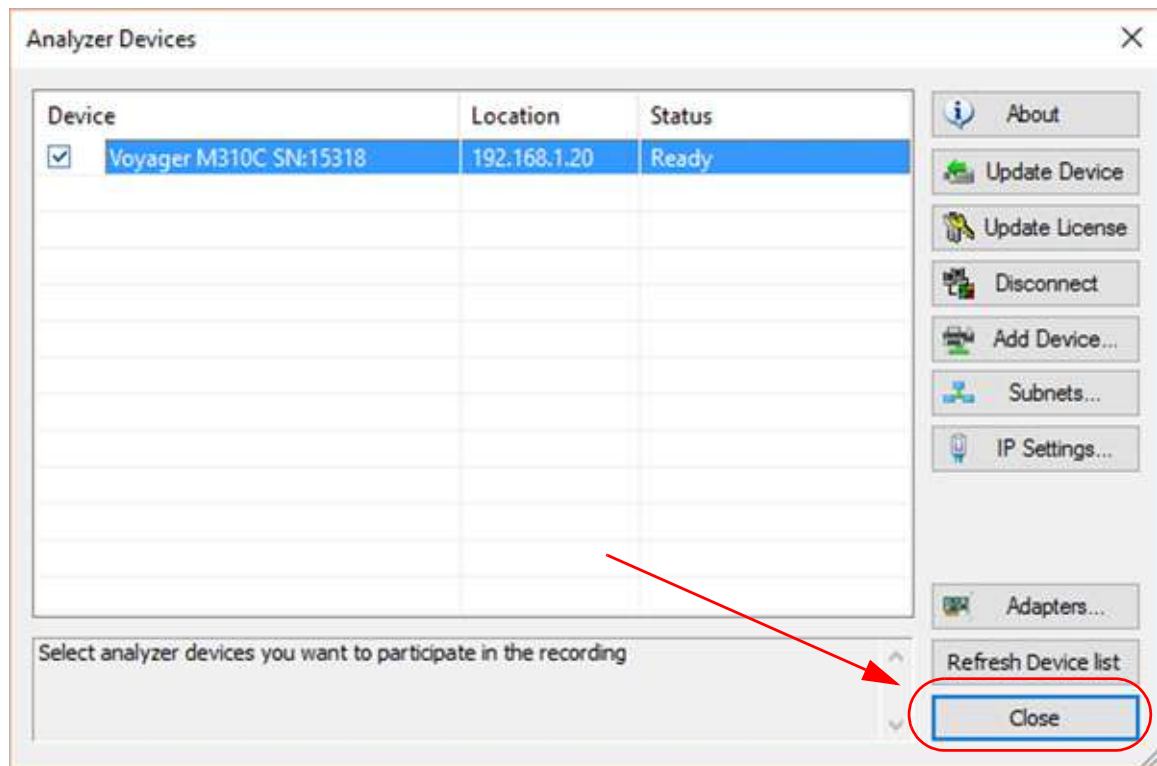

Figure 3.31: Analyzer Connected to Host PC over Ethernet Bus
5. Now the USB Analyzer Devices Dialog will show the analyzer has been connected and you can close the window and begin recording. See Figure 3.31.